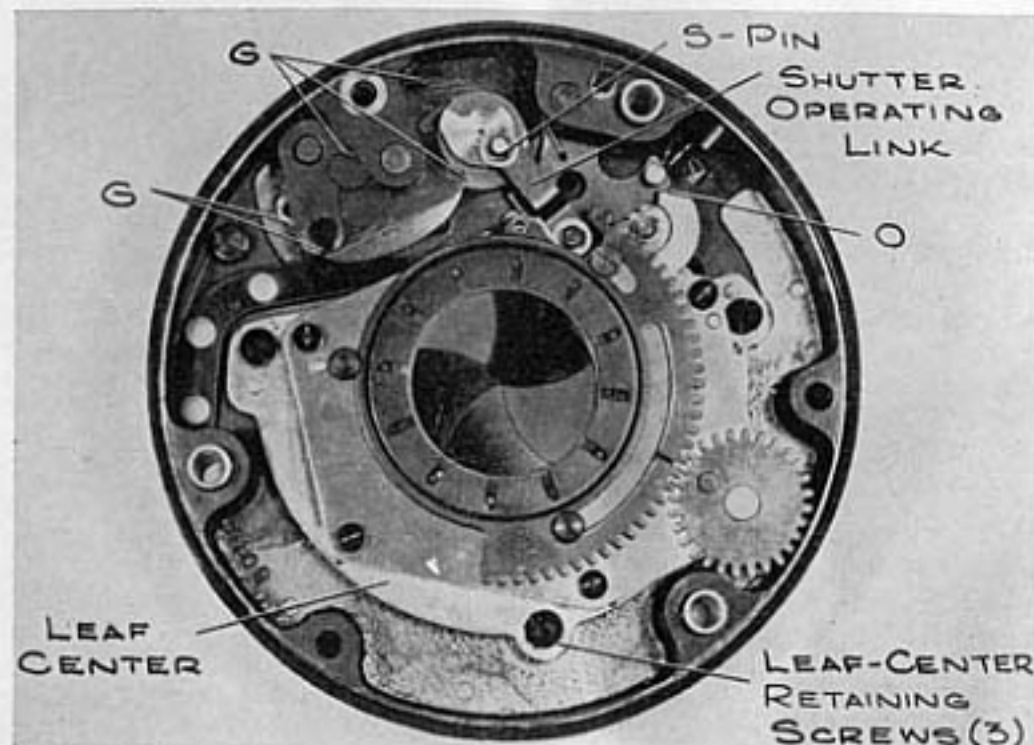

Figure 10—Lubrication—Interior of Shutter
(1) Oil and grease should be placed at the points indicated by "O" or "G" in figures 10 and 11, or where otherwise stipulated. Use only the oil and grease specified, as variation from specifications will cause trouble at low temperatures.
(2) The oil specified is Oil, Lubricating, for Aircraft Instruments and Machine Guns, U. S. Army Specification No. 2-27.
(3) The grease specified is Grease, High Melting Point, AAF Specification No. 3560, soft grade.
(4) When applying lubricants use them very sparingly and take extreme care to remove all excess.
### b. Shutter. (See figures 10 and 11.)